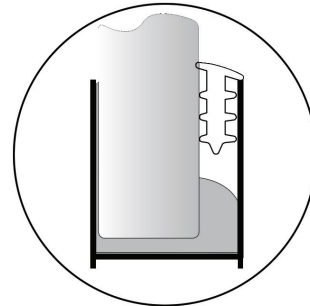

FIG 9.
- Starting at the top of the wall channel, from outside shower, spray with warm soapy water then insert rubber wedge seal into gap (removing plastic wedges if used)(**FIG 9**). Leave rubber wedge protruding 40mm at top to cut off later.